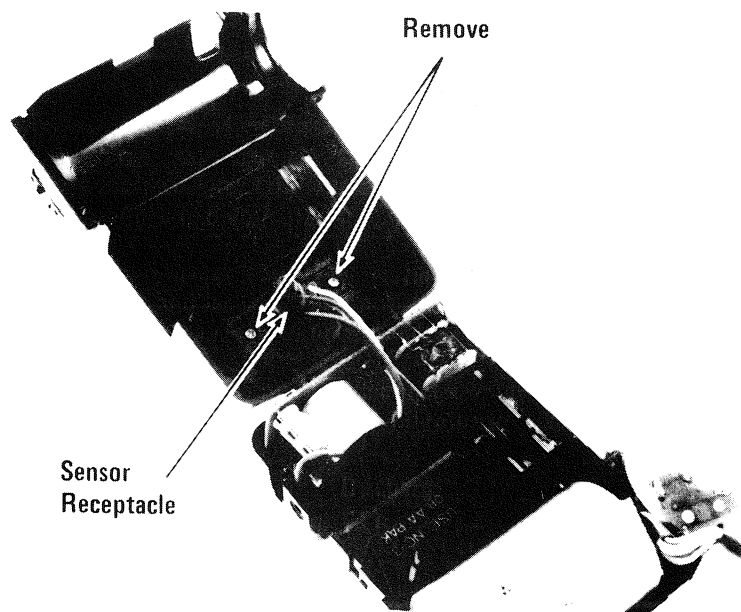

Figure 3-8. Sensor Receptacle Removal
- J. Detach sensor receptacle from body case LB by removing screws. Lay body case LB aside. Fig. 3-8.